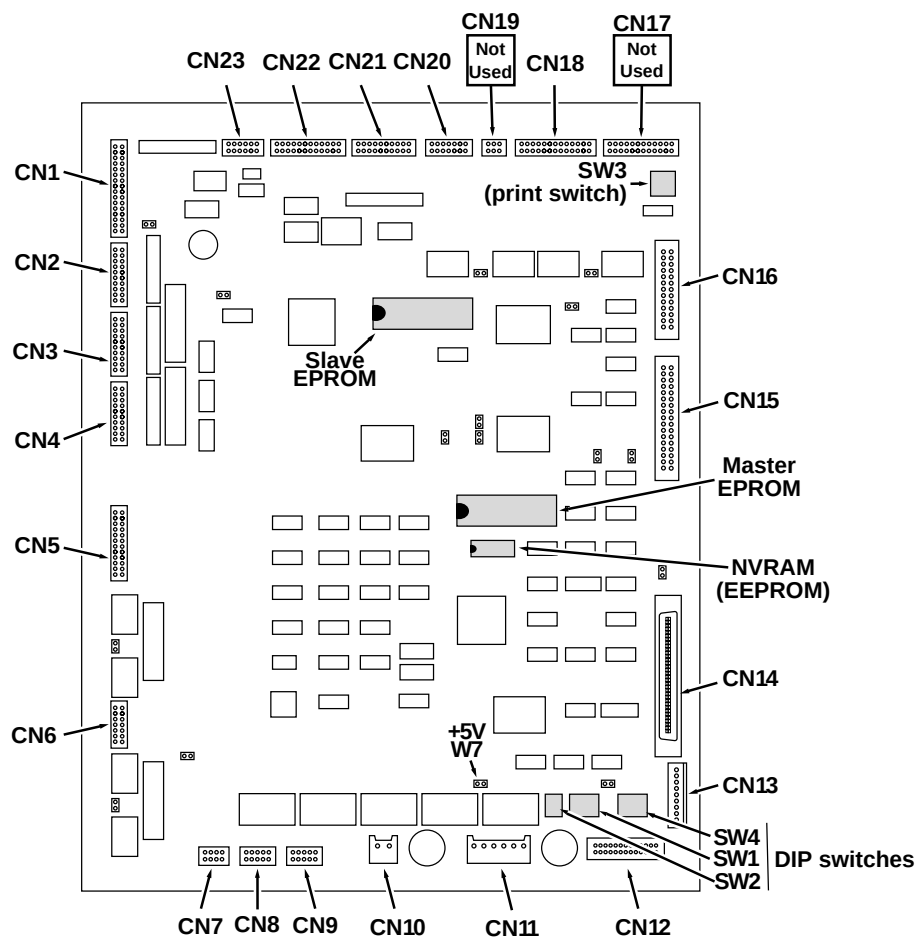

Figure 5-45 Mechanism Controller Board
- The NVRAM is an 8-pin IC located in the M5K socket at the right center of the mechanism controller. See Figure 5-45.
See Figure 5-45 "Mechanism Controller Board," on page 5-52. Do not remove mechanism controller board.
See Figure 5-45 "Mechanism Controller Board," on page 5-52.
- See Figure 5-45 "Mechanism Controller Board," on page 5-52. Do not remove mechanism controller board.